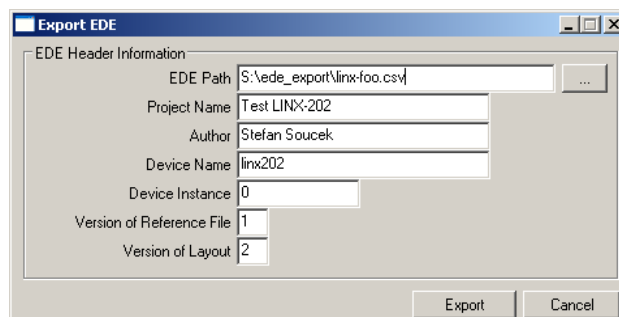

Figure 154: EDE Export Dialog.
2. Right-click and select **Export EDE ...** in the context menu. This opens the EDE export dialog to enter the EDE header information as shown in Figure 154.